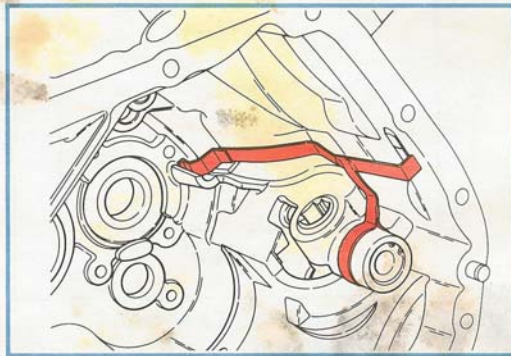

Figure 1-6, Lube Trough.
- Whatever oil is thrown against the wall of the transmission case next to the input shaft is caught by a trough (Figure 1-6). This oil flows to the end plate, where it is guided to rifle-drilled holes in the input and output shafts.